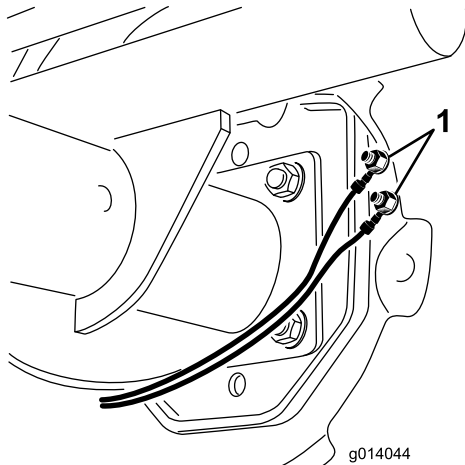

Figure 9
18. Connect the wire harness ring terminals to the brake shoe studs with 2 nuts (Figure 9). The black goes to the top and the white wire goes to the bottom. Use a back-up wrench when tightening the nuts.